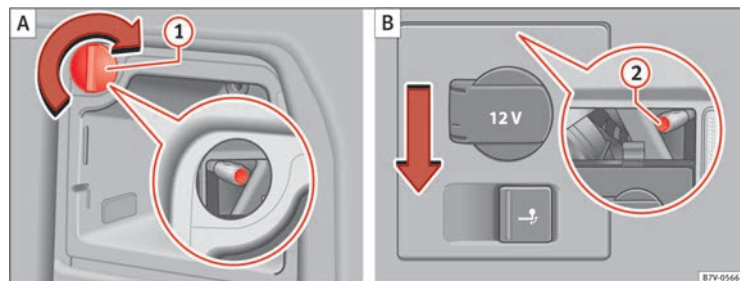

Fig. 213 On the side of the luggage compartment: To remove the left and right hand side tail lights. (1) remove the cap; (2) attachment screw.
| 3. | Open the storage compartments on the left-hand side of the luggage compartment ⇒ page 142.   | Move the 12 V socket support by pressing gently downwards ⇒ fig. 213 (B) (arrow). |
| 4. | Rotate the cap ⇒ fig. 213 (1) 90° in the direction of the arrow and remove it.   |   |
| 5. | Unscrew the attachment screw ⇒ fig. 213 (2) using the screwdriver from the on-board tools ⇒ page 324. The bolt is secured in its position. |   |